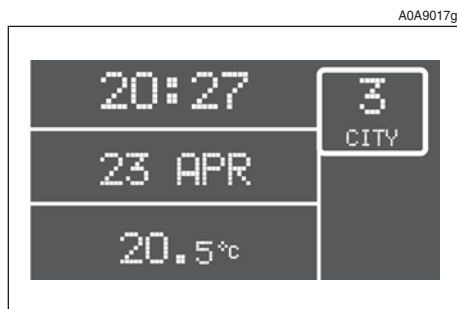
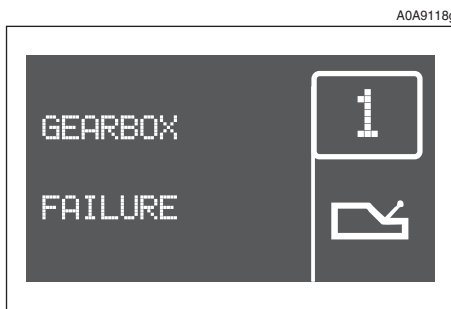

fig. 129
fig. 130
- the second is automatic, called **CITY** (mode selectable with the special button **B**-fig. 128, the word **CITY** is shown on the display fig. 130). With this mode the system decides directly when to shift gear.
The gear engaged (**fig. 129**) is shown on the display regardless of the mode selected.
A warning light connected with the corresponding failure message ("GEARBOX FAILURE") (**fig. 130**) and a buzzer attract the attention of the driver in the event of a fault of the Selespeed transmission.
Turning the ignition key to **MAR**, all the segments of the gear display (**fig. 129**), the gearbox failure warning light (**fig. 130**) and the word **CITY** light up. After about one second, the display indicates the gear engaged (**N, 1, 2, 3, 4, 5, R**).